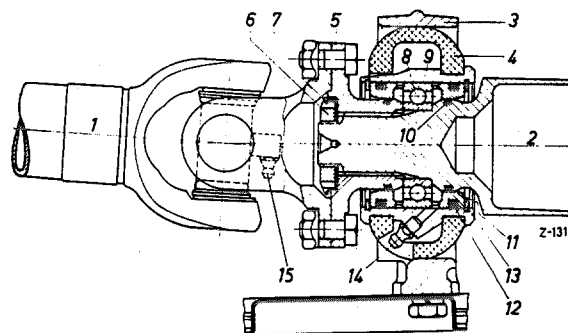

Fig. 41 — 4/2
**Note:** Replacement supply procedures have recently been changed in so far as both the propeller shaft assembly and the rear propeller shaft are supplied without bearing bracket (3) and without rubber mounting (4) (see Fig. 41 — 4/2).